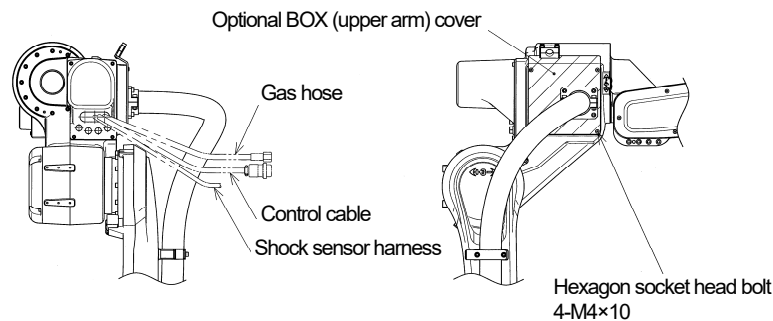

Figure 1.8 Outline of optional BOX (upper arm)
1. Referring to Figure 1.8, unscrew four hexagon socket head bolts (M4×10) and open the cover of optional BOX on the upper arm.